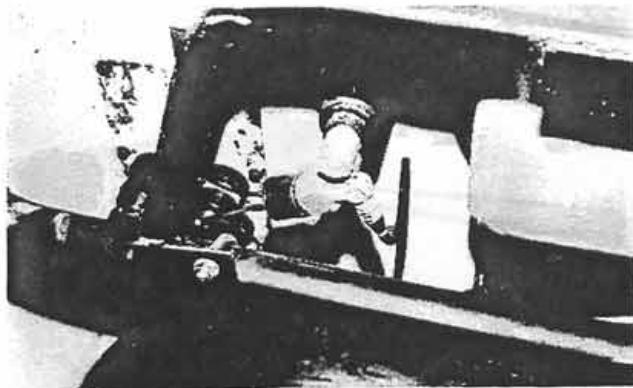

Figure 11:
5. Reconnect the brake line and brake switch wires (Fig. 11).